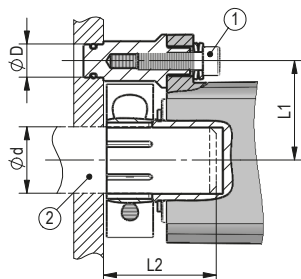
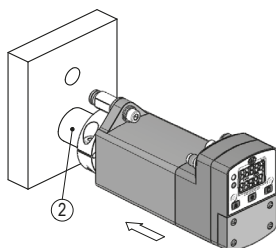
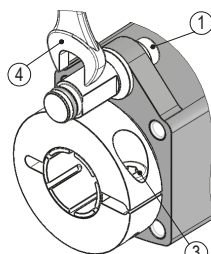

Fig. 1: Mounting dimensions
Fig. 2: Mounting
Fig. 3: Fastening torque for screws
- ▶ Ensure a low shaft and angle offset between shaft and accommodation bore by applying appropriate manufacturing methods (see **Fig. 1** + **Tab. 1**).
If torque pin (see **Fig. 3**) is mounted improperly, this will lead to a destruction of the casing.
Preparing mounting (Fig. 1, Fig. 2, Fig. 3):
Mounting (Fig. 1, Fig. 2, Fig. 3):